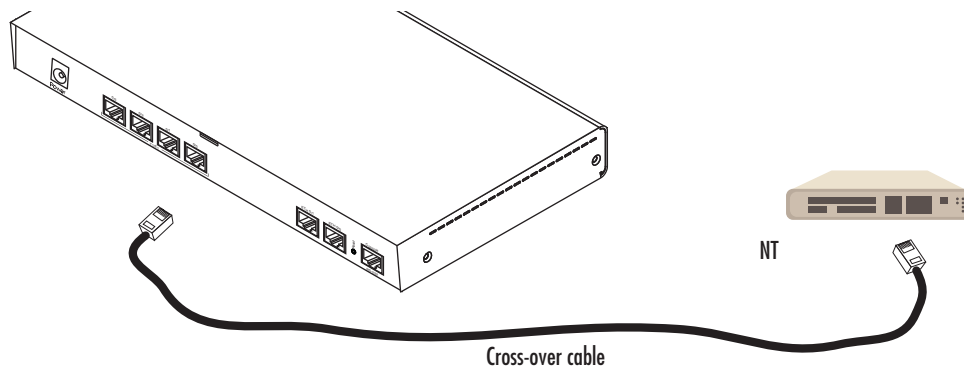

Figure 16. Connecting a T1 PRI port to an NT device
The T1 PRI is usually connected to a PBX or switch—local exchange (LE). Type and pin outs of these devices vary depending on the manufacturer. In most cases, a straight-through RJ-45 to RJ-45 can be used to connect the PRI with a PBX. A cross-over cable is required to connect to an NT device, as illustrated in figure 16.